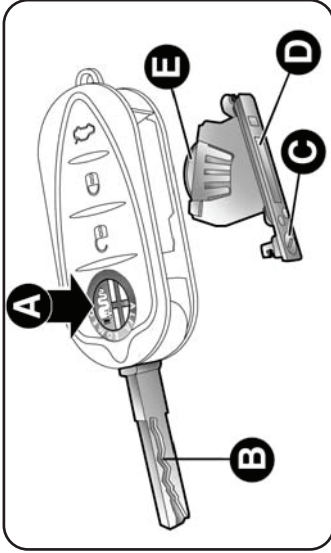

fig. 18 A0X0051m
- press A button fig. 18 and open out the B metal insert; turn C screw to ⚡ using a small point screwdriver;